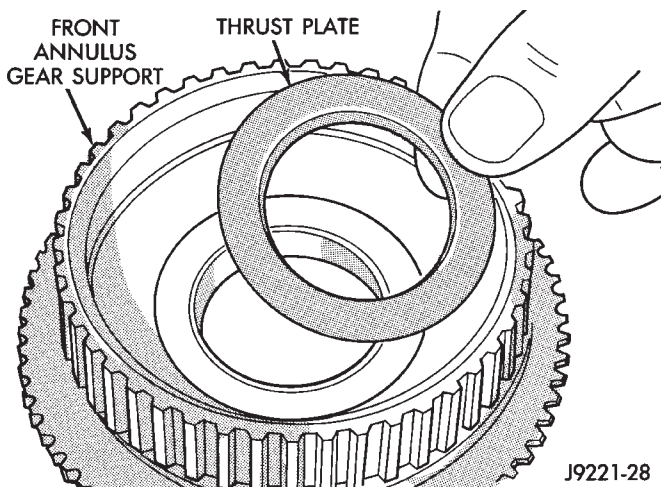

Fig. 80 Installing Thrust Plate On Front Annulus Support
(15) Assemble front annulus gear and support if necessary.
(16) Position thrust plate on front annulus gear support (Fig. 80). Use liberal quantity of petroleum jelly to hold plate in place.